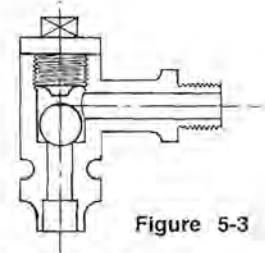

Figure 5-3
- d) The boiler feed clack valve (see Fig 5-3) should not leak. Hot water getting back to the feed pump will heat it up and prevent it working properly.